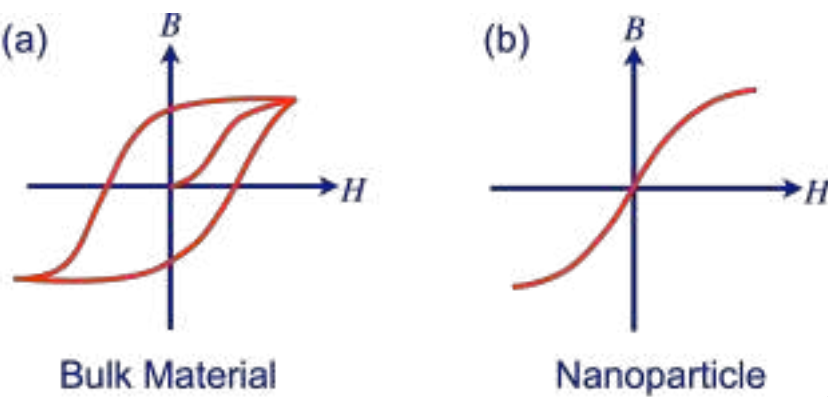

Fig.20: Hysteresis B-H curve for bulk and nanoparticles
- When bulk ferromagnetic materials are subjected to alternating magnetic fields, they show hysteresis for which the B-H curve is as shown in Fig.20(a).
- In nano sized ferromagnetic particles, essentially consisting of a single domain there is no hysteresis and the B-H curve, as shown in Fig.20(b).